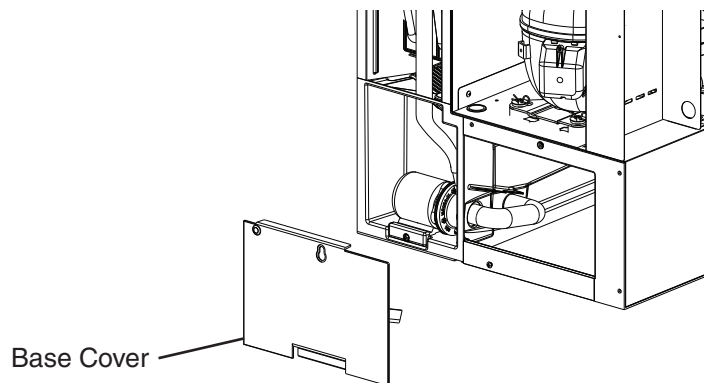

Fig. 15
- 2) Remove the front panel and base cover. See Fig. 15. If using in a dispenser application, see "II.J. Bin Control Adjustment." Otherwise, continue to step 3.